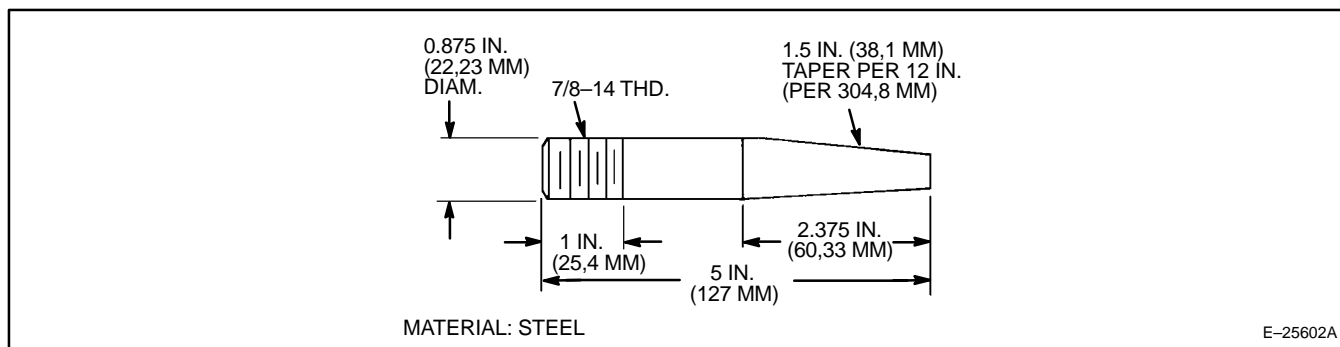

Figure 21. Piston Pin Guide Pin.
1. Coat the piston pin liberally with clean engine lubricating oil and insert the pin into the piston. Thread a piston pin guide pin into one (1) of the holes in the piston pin. A guide pin may be purchased as GE Tool 147X1326, or may be made from a piston pin bolt with the head cut off and the end tapered (Figure 21).
2. Lower the piston with piston pin onto the connecting rod, allowing the guide pin to enter one (1) of the piston pin bolt holes in the connecting rod.